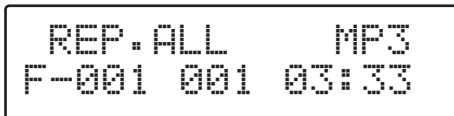

Fig 20.
3. Press the REPEAT button again to repeat all tracks on the flash drive. (Fig 20)